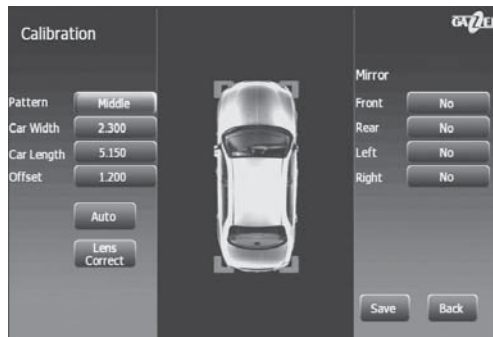
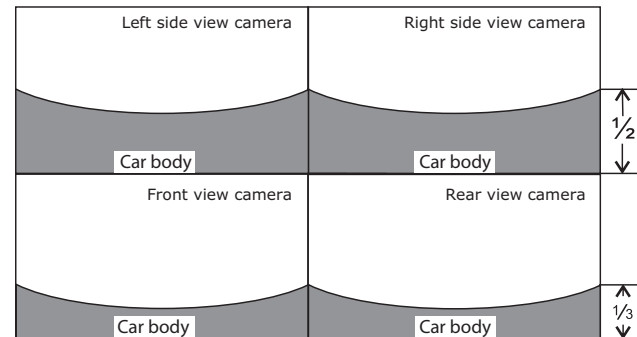

Fig. 7
Fig. 8
- Go to "Calibr." (Fig. 7) and view video feed from each camera consecutively using navigation buttons on the remote control. Make sure that the image produced by the cameras matches the one on the diagram below (Fig. 8).